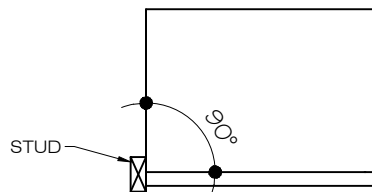

FIG.1C
- Ensure that there is sufficient structural support behind the shower wall to hold the weight of the shower door. If there is insufficient support, then reinforce the shower walls with wooden studs prior to shower door installation. [SEE FIG.1C]